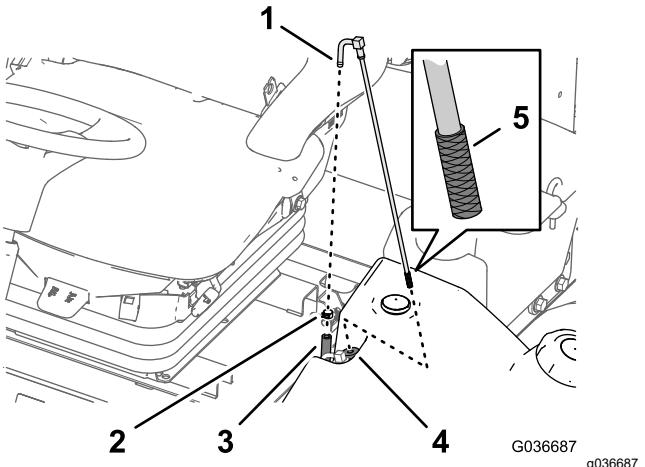

Figure 50
1. Remove the hose clamp that secures the fuel supply hose to the fitting of the fuel-pickup tube (Figure 50).
2. Separate the hose from the fitting (Figure 50).
3. Lift the fuel-pickup tube from the fuel tank (Figure 50).
4. Clean any debris from the screen at the end of the fuel-pickup tube (Figure 50).
5. Insert the fuel-pickup tube through the rubber bushing and into the tank (Figure 50).